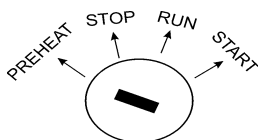

Figure 18. Key Switch (Preheat)
7. Turn the starter switch to 'PREHEAT' (Figure 18) until the indicator light turns on. The oil pressure indicator light will initially turn on, but should turn off once the pressure rises.